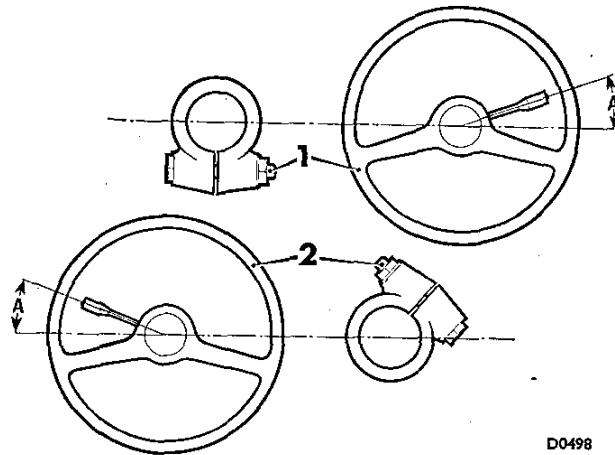

Fig. J.2
- (24) *Mk. II models.* Refit the column onto the pinion with the clamp bolt positioned as shown in Fig. J.2, and tighten to the torque figure given in 'GENERAL DATA'.
- (25) Lift the column and insert the clip into the support bracket, moving the bracket to meet the clip and not vice versa, so that the column remains free of load. Tighten the bracket to fascia rail securing bolts.
- (26) Refit and adjust the indicator trip stud until the combined measurement of the column and the stud is between 1.176 and 1.195 in. (29.87 and 30.35 mm.). Ensure that the longitudinal head of the stud is parallel to the column and tighten the lock-nut. Tighten the column clip to the fascia bracket.
- (27) Ensure that the outer column and direction indicator lever is positioned as shown in Fig. J.2, i.e. with the indicator trip stud exactly between the two cancelling mechanisms of the switch.
- (28) Tighten each of the rack 'U' bolts nuts as a pair, turning each nut alternately a half-turn at a time until secure.
- (29) *Mk. II models.* Remove the locator pin and refit the plastic plug.
- (30) The remainder is a reversal of the removing procedure.